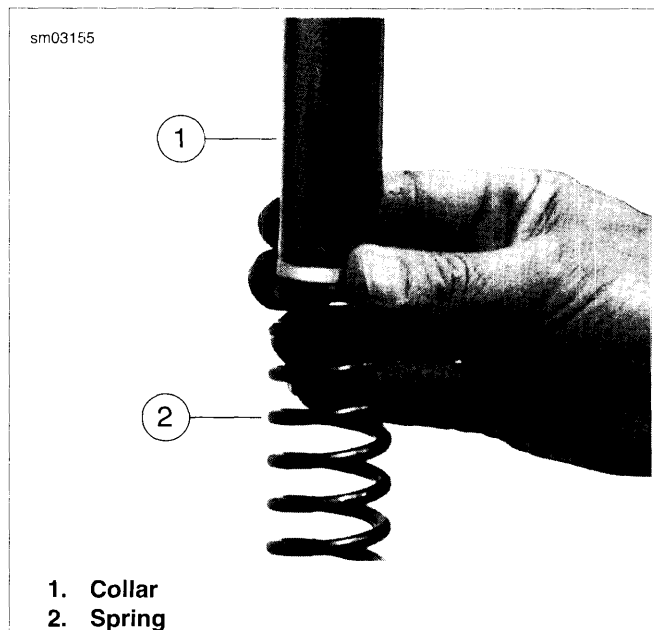

Figure 2-172. Collar and Spring Assembly
1. See Figure 2-172. Fully extend fork and install spring in fork tube (with tightly wound end at bottom), washer and collar.